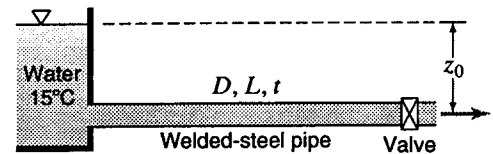

Figure P12.34
12.34 Water at 15°C is flowing through a 300-mm-diameter welded-steel pipe 2400 m long that drains a reservoir under a head of 50 m (Fig. P12.34). The pipe wall has a thickness of 8.5 mm. (a) If a valve at the end of the pipe is completely closed in 10 s, approximately what water-hammer pressure will be developed? (b) If the steady-state flow is instantaneously reduced to one-half its original value, what water-hammer pressure would you expect?